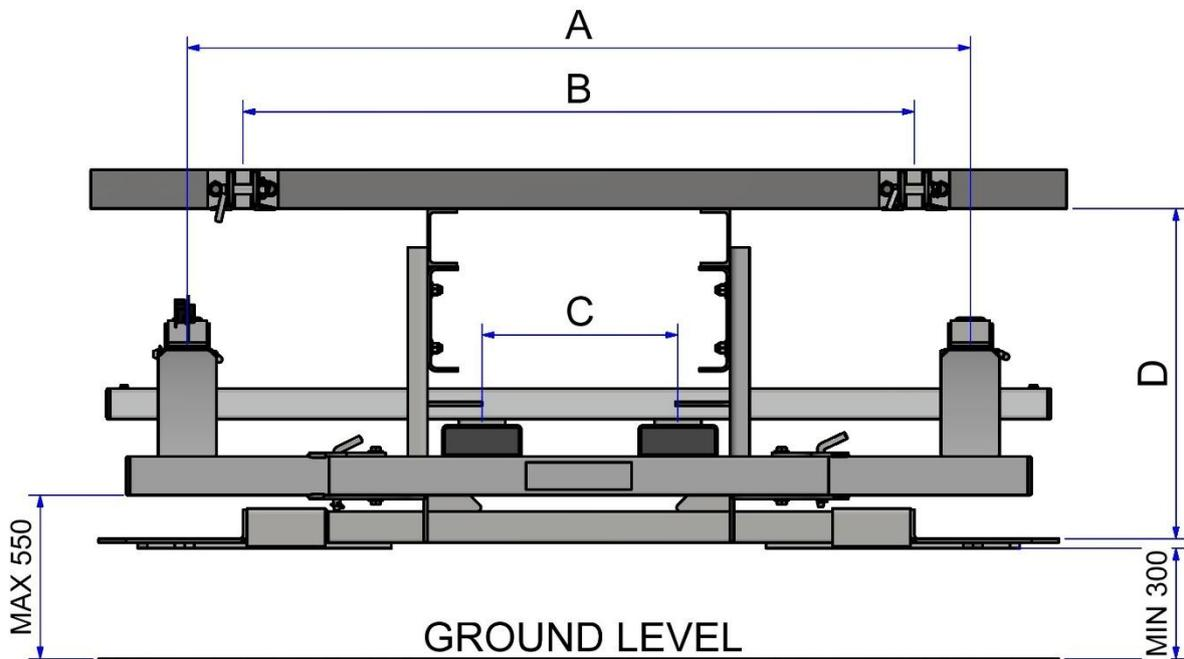

Figure 9 (Front View with Dimensions)
The kit's dimensions will need to be adjusted based on the specific TMF machine to be mounted. Refer to Figure 9 below for the dimensions, and consult Tables 3 and 4 for their corresponding values
- It is important to refer to Figure 9 and Table 3 or 4 (above), depending on the brand of forklift you intend to mount when welding this section